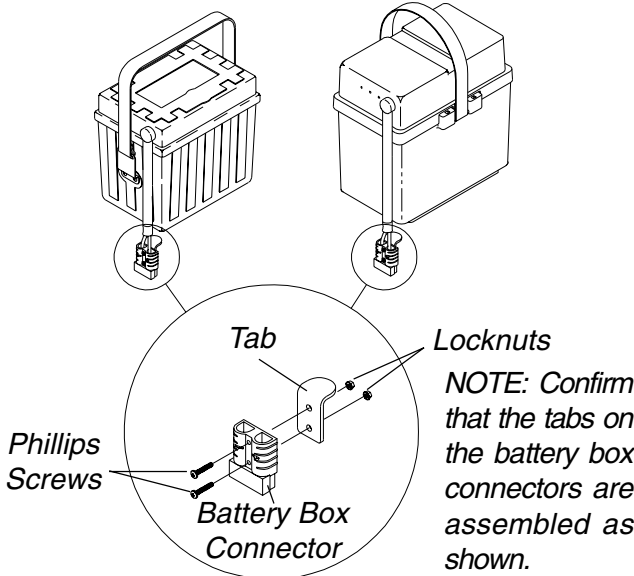

FIGURE 1 - BATTERY BOX CONNECTOR TABS
1. Confirm that the tabs on the battery box connectors are assembled as shown in FIGURE 1.
NOTE: If the tab on the battery box connectors is not assembled as shown in FIGURE 1, remove the phillips screws and locknuts to assemble the tab onto the connector correctly.